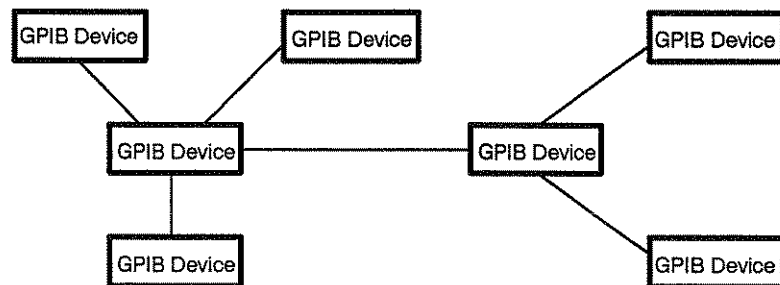

Figure 2-24: Typical GPIB Network Configuration
- You must have only one cable path from each device to each other device on your network. You cannot create loop configurations (see Figure 2-24).